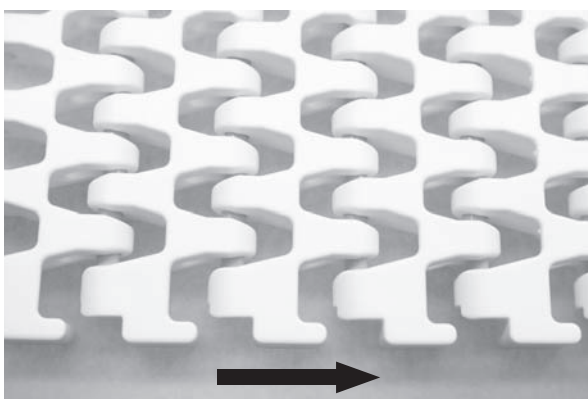

Figure 42
1. Position the belt on the conveyor frame (**Figure 42**).
*Ensure the belt is running in the correct direction (**Figure 42**).*